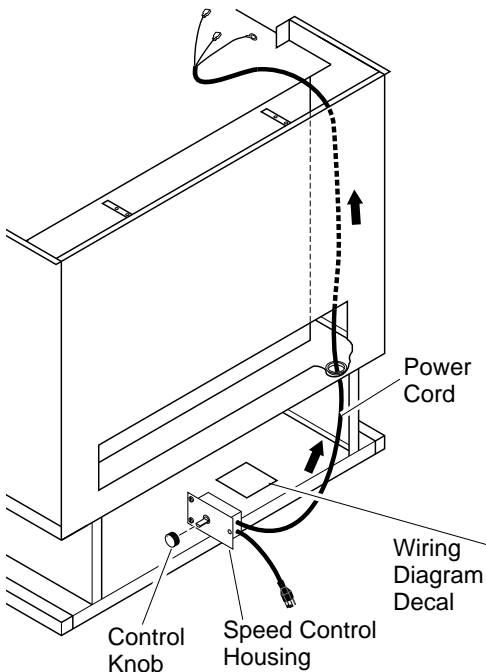

Figure 16 - Routing Power Cord
9. Route ends of 3-wire power cord up from the lower control compartment through the plastic bushing, then up to the upper cavity of stove (see Figure 16, page 11).
13. Install plastic control knob onto output shaft of speed control housing (see Figure 16). Place speed control housing just inside control compartment door in front of stove (see Figure 17).
17. Peel off the backing paper and stick the supplied wiring diagram decal on the stove floor as shown in Figure 16.